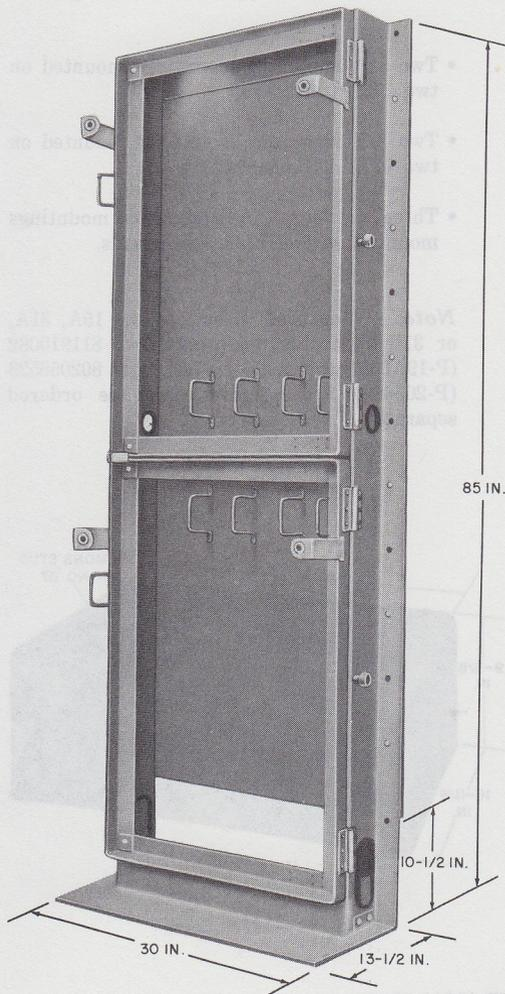
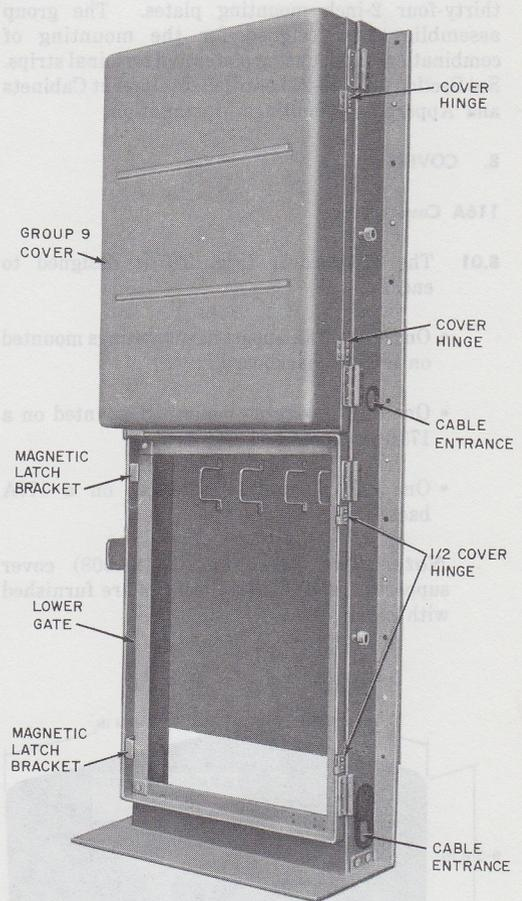

Fig. 31—Wall Relay Rack per ED-69463-50, Group 1 (MD)
Fig. 32—Wall Relay Rack per ED-69463-50, Group 8, with One Group 9 Cover on Upper Gate
7.01 The wall relay rack per ED-69463-50, Group 1 (MD) (Fig. 31) and ED-69463-50, Group 8 (Fig. 32) are steel relay racks designed for centralized installations of key telephone equipment. They consist of two gates hinged on the right side and mounted on a steel frame. Each gate may be